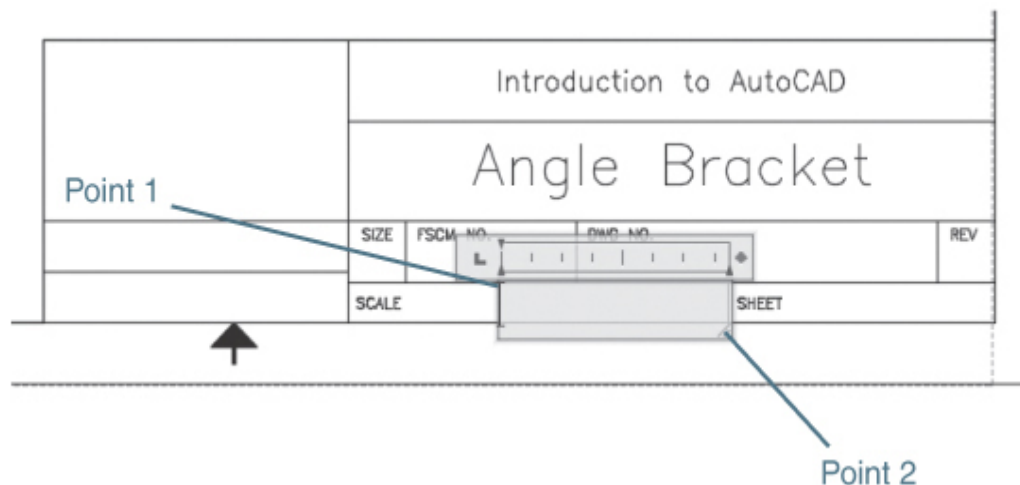

Figure 2-55
- 1 Choose the **Multiline Text** tool from the **Annotation** panel on the **Home** tab of the ribbon, and select the endpoints at point 1 and point 2 shown in Figure 2-55. The **Text Editor** context tab of the ribbon replaces the **Home** tab of the ribbon at the top of the screen, and a flashing text cursor is displayed at the upper-left corner of the text box.